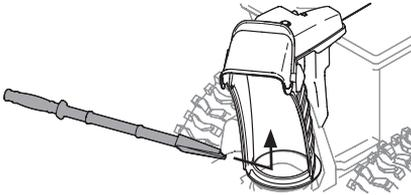

Figure 74
4. Use the shovel-shaped end of the clean-out tool to dislodge and scoop any snow and ice which has formed in and near the chute assembly. Always use the clean-out tool (Part # 931-2643), not your hands. Refer to the separate supplement for clean-out tool ordering information, if lost or damaged (Figure 74).